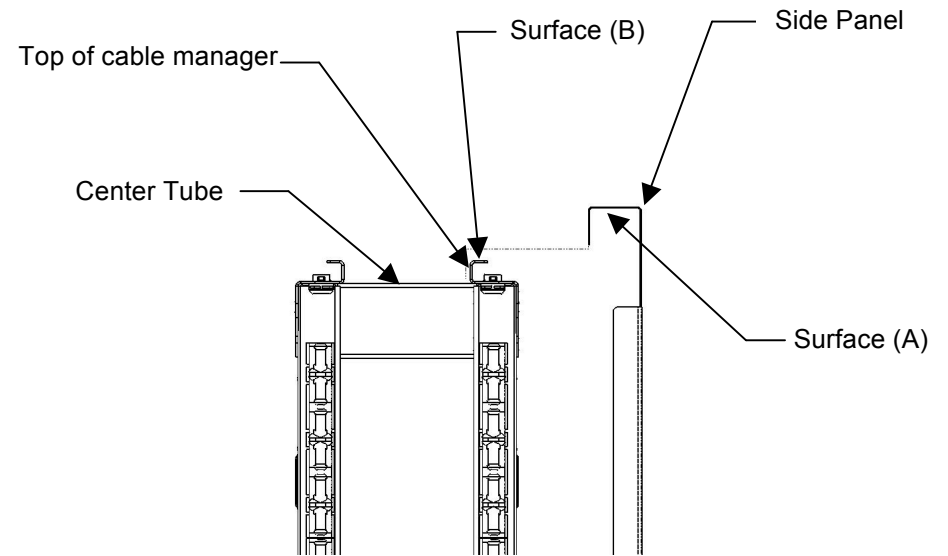

Figure 1
3. Center the panel to the side of the cable manager. Lift and tilt it away from the manager, proceed to hang it on top of the manager's frame member. Ensure that the top of the Side Panel, surface (A), rests on surface (B). If Panel does not completely seat as indicated then verify that the slot on the top of the Side Panel straddles the center rectangular tube of the cable manager. See Figure 1.